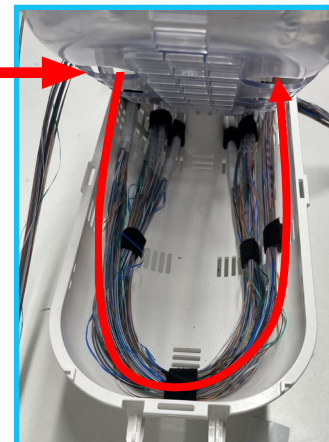

Figure 12.1
1. Loop the Spur fibre around the basket, secure at the top using Velcro [figure 12.1].